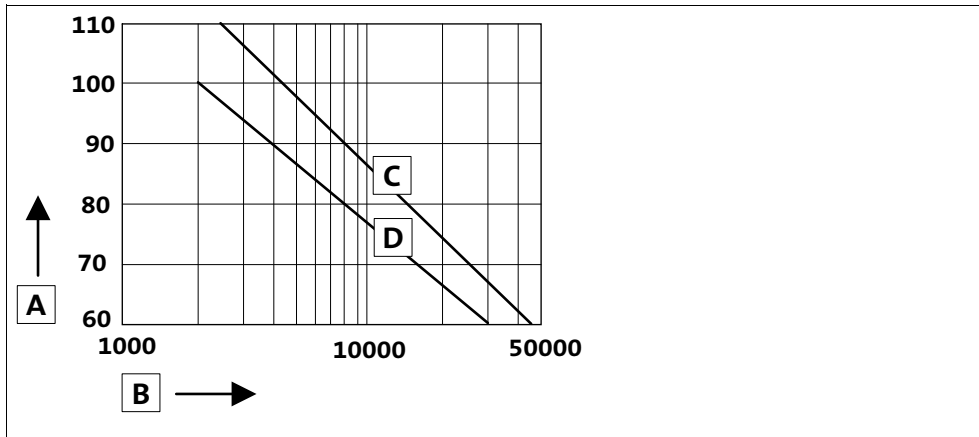

Fig. 11 Lubricant diagram
- The lubricant change depends on the lubricant temperature, see Fig. 11.